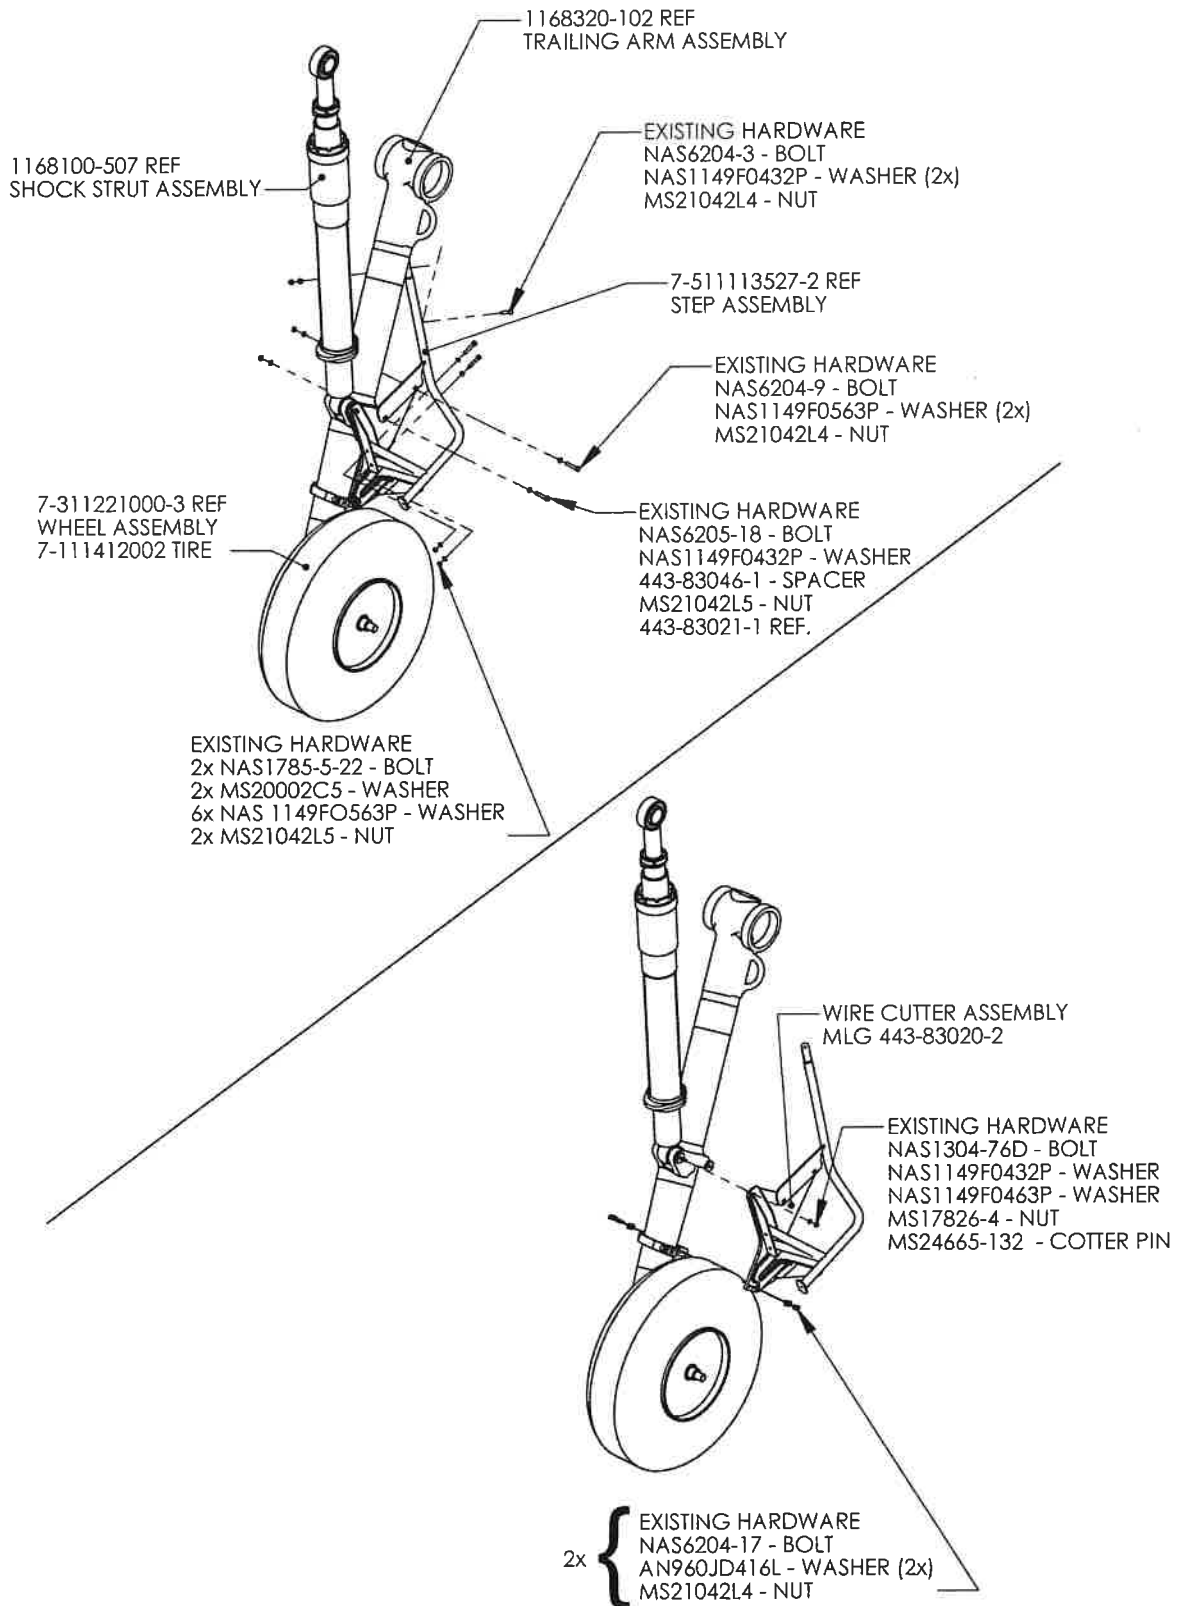

Figure 3.0
9. Remove Step Assembly (7-511113527-1 & -2). Keep existing hardware for future use. *See figure 3.0.*
10. Remove Wire Cutter Assembly (443-83020-2). Keep hardware and wire cutter assy. for future use. *See figure 3.0*